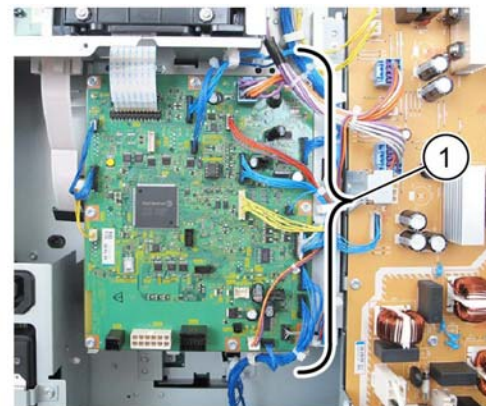

Figure 3 Connectors
5. Disconnect all connectors from the drive PWB (1), Figure 3.